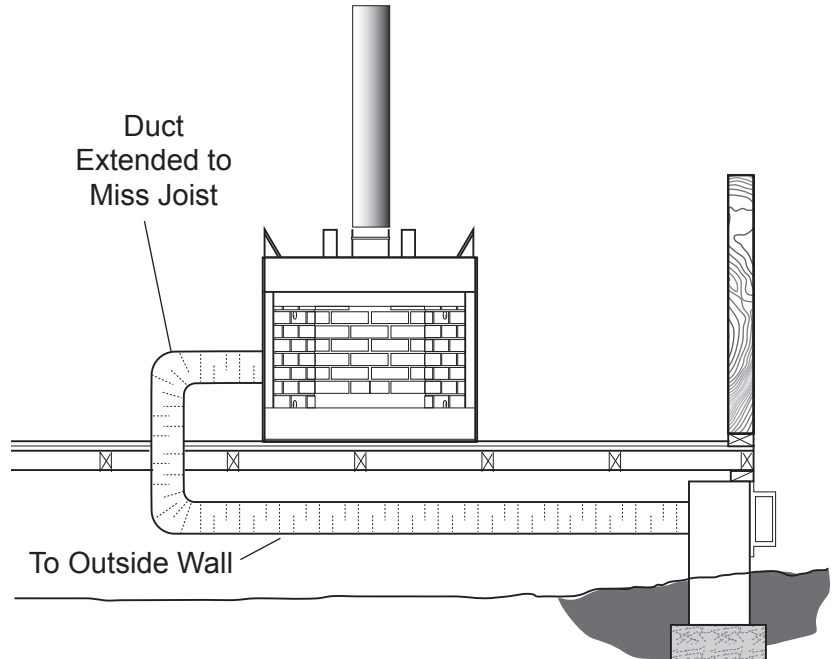

Figure 11 - Installing Unit Above Basement or Crawl Space
1. Avoid extremely long runs and numerous turns in duct leading from fireplace to combustion air assembly. These conditions increase the resistance to free flow of air through duct. See Figures 11 and 12.
4. Combustion air may be drawn from crawl space under house when adequate supply of air is provided by open ventilation. See Figure 11.